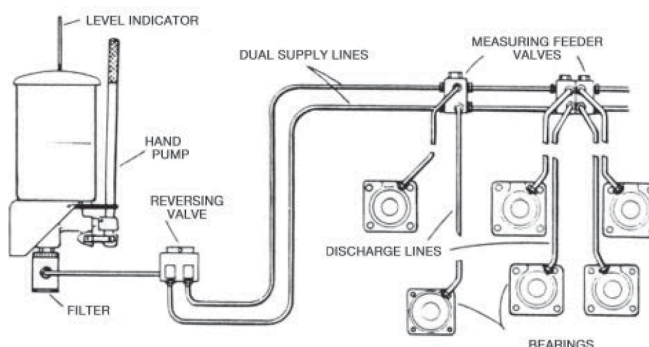

Figure 2: Centralized Grease System.
- **Centralized Grease Systems** — Where a piece of equipment has many bearings requiring frequent application of grease, a centralized grease system is usually installed (**Figure 2**). Grease is supplied from a reservoir to the bearings via a pump, pipes or tubing, and metering valves.